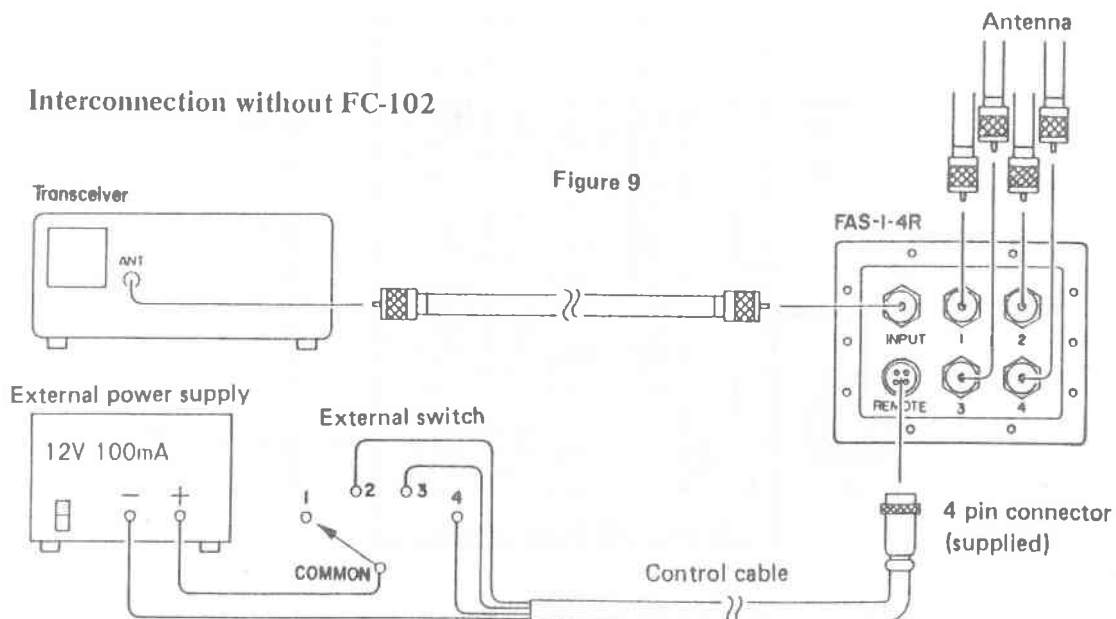

Figure 9
1. When 12 V DC at 100 mA is provided, along with a 1P4T switch, the FAS-1-4R can be operated either at the station or a remote location. Refer to Table 2 and Figure 9 for the required interconnections.